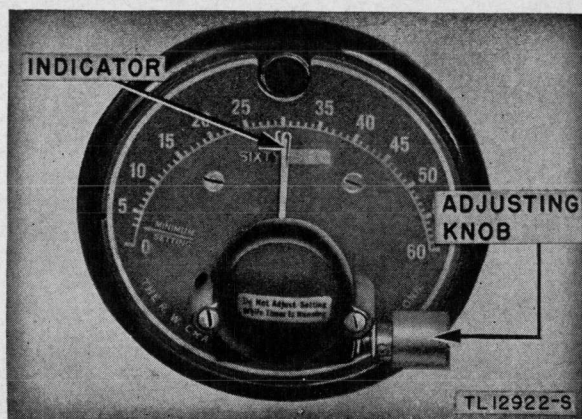

Figure 17. Time delay relay.
**b. TIME DELAY RELAY.** A time delay relay of the type used in the PW-15A is shown in figure 17. This relay has a maximum time delay of 60 seconds, and may be adjusted for any delay period up to 60 seconds by turning the knurled knob until the indicator points to the desired number of seconds.